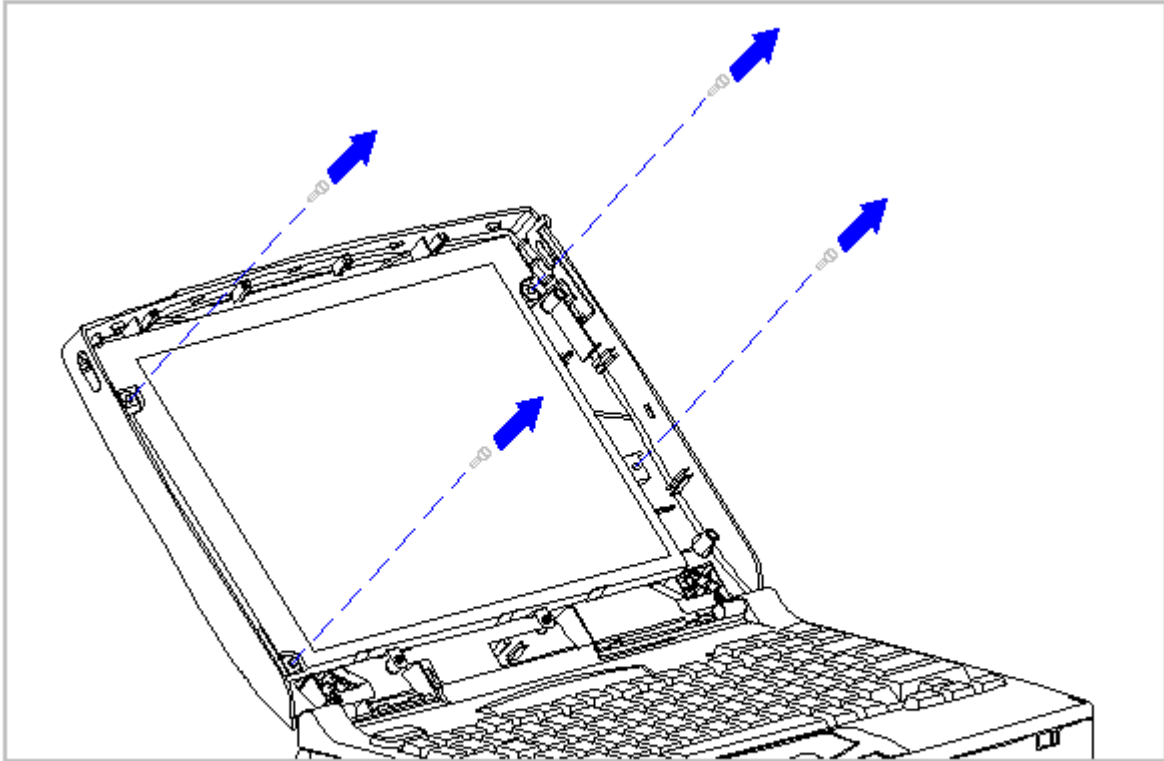

Figure 5-99. Removing the Screws from the CTFT (10.4 in) Panel
7. Remove the four screws that secure the panel to the display enclosure (Figure 5-99).